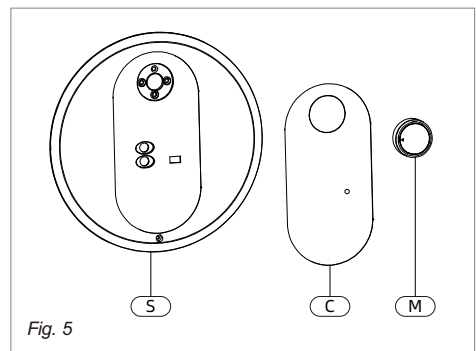

Fig. 5
The temperature of the hot water is adjusted by rotating the knob M (Fig.5) located on the front cover. Temperature range is 55-145 °F.
- Remove rubber seal which covers the Phillips screw (Fig. 5 [S]), and unscrew the Phillips screw.
- The cover (Fig. 5, [C]) can now be removed by slightly rotate. When reassembling, work in the opposite way being careful to insert the tongue of the cover into the slot.